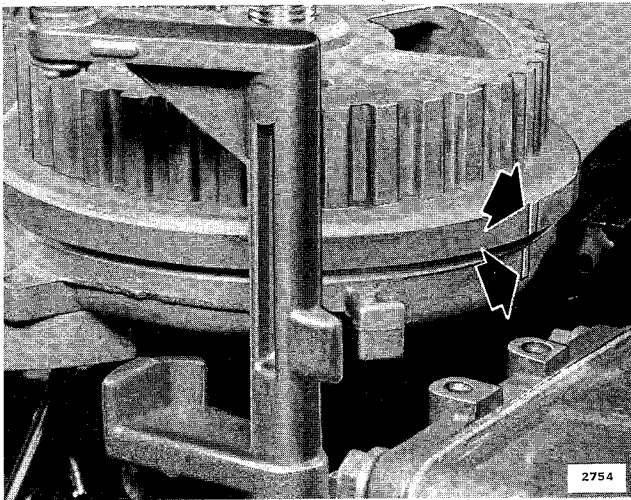

Figure 4-25. Second Timing Mark
f. Rotate pulley 90° so that mark on pulley lines up with second mark on breaker plate. See Figure 4-25. Repeat breaker point adjustment for second set of points. Care should be taken that points break 90° apart to assure even firing on all cylinders.